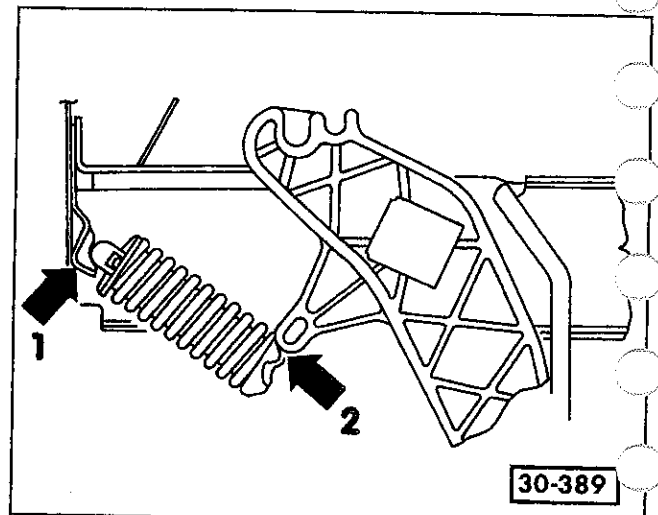

Fig. 4. Install clutch over-center spring by inserting into bracket and then pressing into pedal mounting lug (2).
- Guide over-center spring between pedal and relay panel holder until it is in position in the mounting bracket and located directly below clutch pedal mounting lug. See Fig. 4.